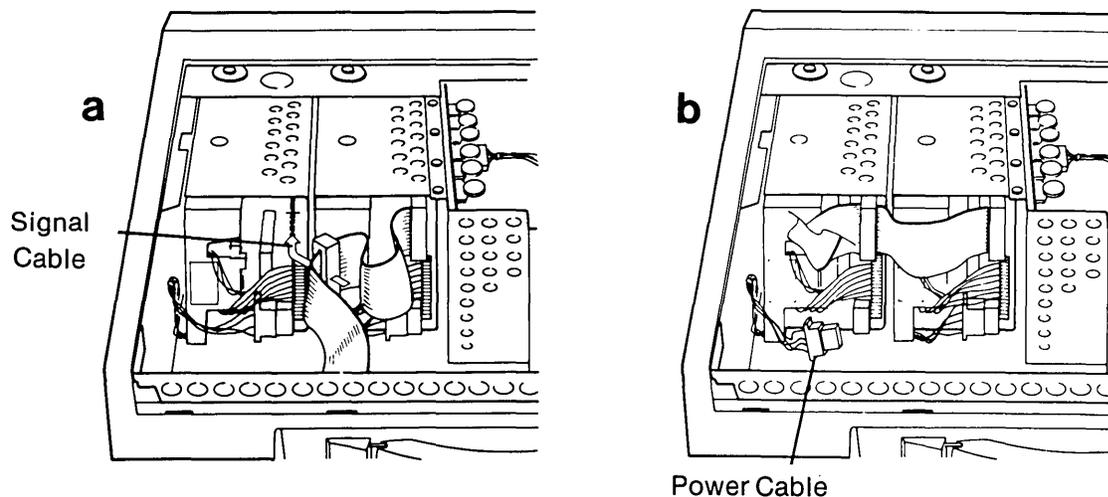

Figure 11-15. Disconnecting the Signal and Power Cable From the Diskette Drive.
14. Disconnect the signal cable and the power cable from the "B" diskette drive (see Figure 11-15 a & b).